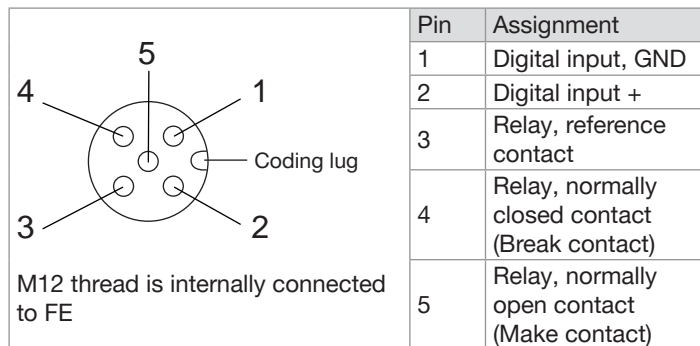

Fig. 20: Analogue MFM or Analogue MFC: Pin assignment, 5-pin M12 female connector (A coding)
- Wire the mating male connector according to the pin assignment of the M12 female connector in Fig. 20. Observe the instructions that are given by the manufacturer of the mating male connector.